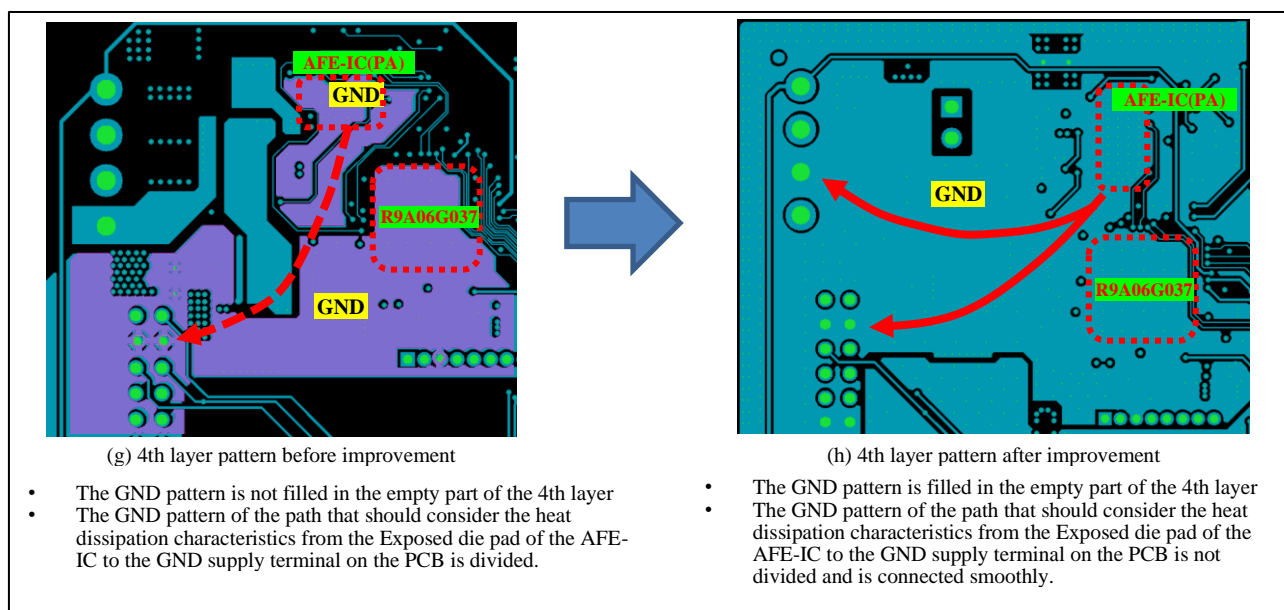
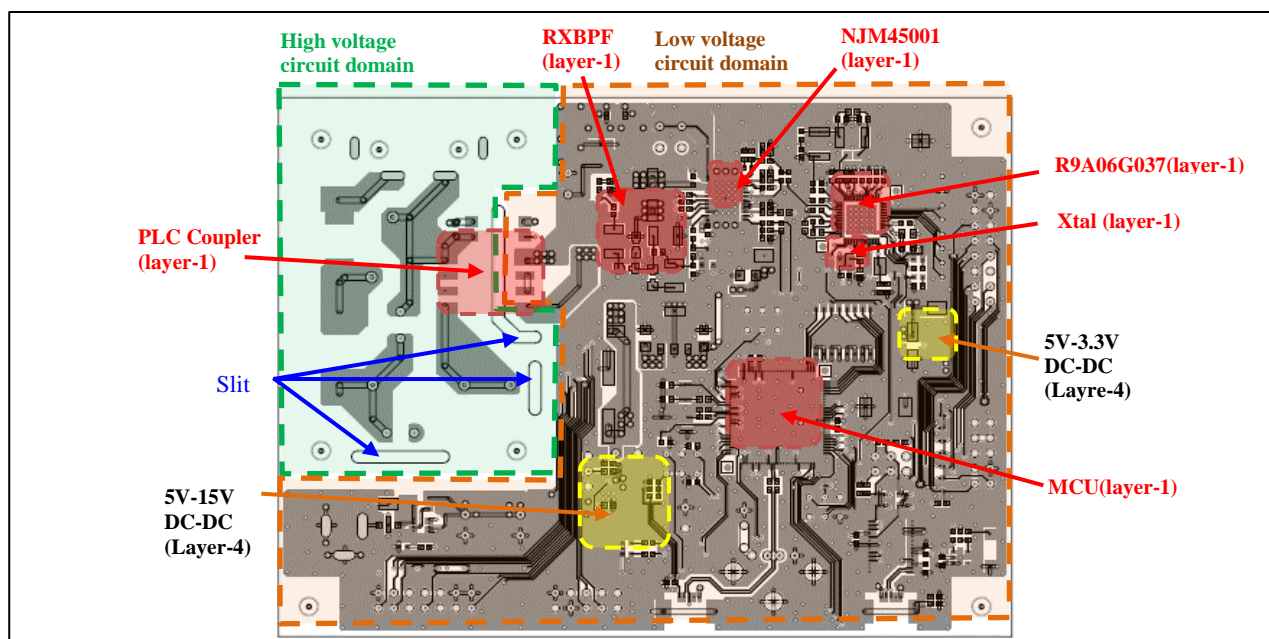
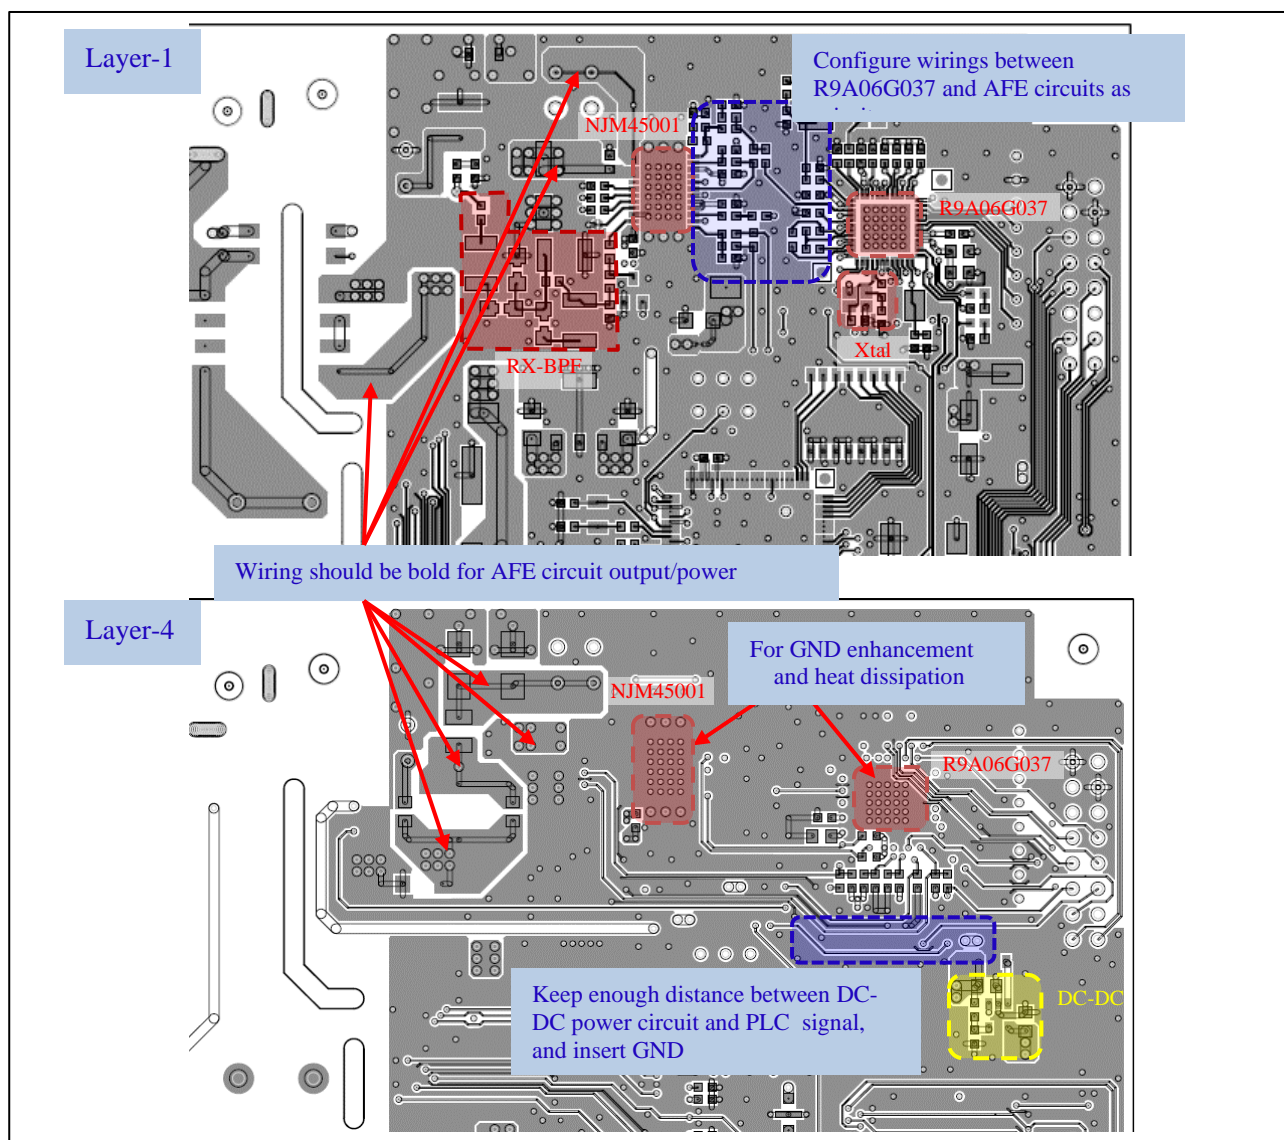
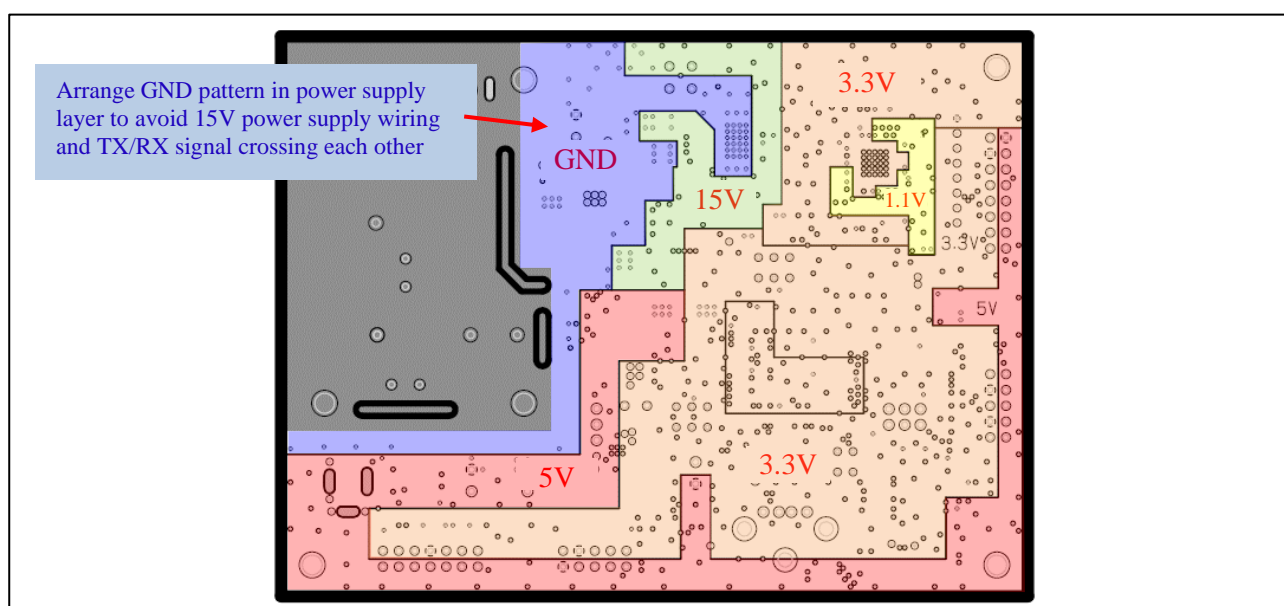

Figure 2-12 Example of connection between Exposed die pad of R9A06G037 and AFE-IC and GND pattern
Figure 3-2 Example of PLC Board Parts Layout in Figure 3-1
Figure 3-3 Example of PCB Layout Design for PLC Board in Figure 3-1
Figure 3-4 Example of Power Supply Layer in Figure 3-1
- In the 1st layer, connect the Exposed die pad of AFE-IC to the GND plane of the first layer as much as possible to improve heat dissipation. (An example is shown in Figure 2-12 (a)-(b))
- In the GND layer of the 2nd layer, connect the path to the GND supply terminal on the PCB smoothly with the Exposed die pad of R9A06G037 and AFE-IC. (An example is shown in Figure 2-12 (c)-(d))
- In the power supply layer of the 3rd layer, place a GND pattern in the via hole part connected to the Exposed die pad of R9A06G037 and AFE-IC. (An example is shown in Figure 2-12 (e)-(f))
- In the 4th layer, the GND pattern is especially important for heat dissipation design. In order to further improve heat dissipation performance, widen the area of the GND pattern and connect the Exposed die pad of R9A06G037, AFE-IC to the GND pattern. Then, connect as smoothly as possible so that there are no obstacles in the path to the Exposed die pad of the AFE-IC and the GND supply terminal on the PCB. (An example is shown in Figure 2-12 (g)-(h)) (Reason: Since large current flows in AFE-IC (Power amplifier for transmission) when transmitting at low load, heat dissipation will deteriorate if the connection between the Exposed die pad of AFE-IC and the GND pattern is not appropriate. Then, the thermal shutdown function of the AFE-IC may intermittently stop the output of the signal.)
- It is recommended to arrange 1.1V/3.3V/15V power regions used in the PLC board for the power supply layer, and arrange the GND pattern in the area where crossing with the power region should be avoided. Figure 2-12 (e)(f) and Figure 3-4 show examples of the power supply layer.
Figure 3-2 shows a parts layout example, Figure 3-3 shows a wiring example, and Figure 3-4 shows a power supply layer example. Note that these examples are not necessarily the most suitable PCB layout for all the PLC board patterns.